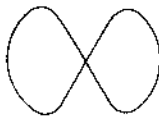

Fig. 3-12
- (3) Adjust the output phase of the 19 kHz pilot signal to obtain the stable Lissajous pattern shown in Fig. 3-12.